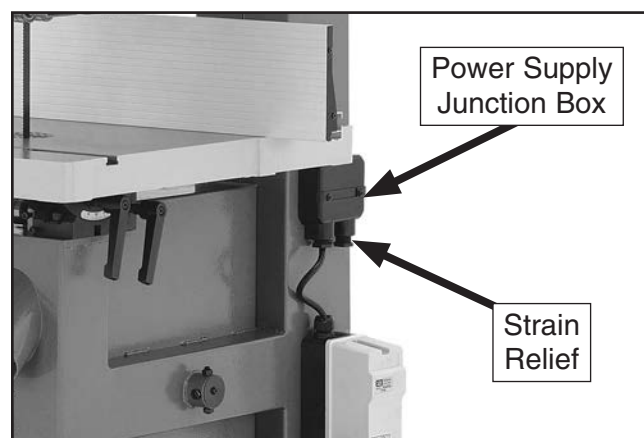

Figure 39. Power supply junction box on rear of bandsaw.
2. Remove the power supply junction box cover from the right rear of the bandsaw (see **Figure 39**). It is secured by two screws.